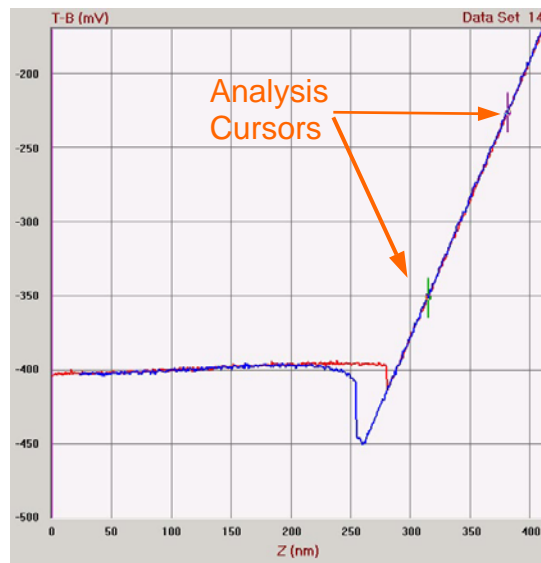

Figure 10-8 Optics calibration curve.
Setup the *Indent* tab panel controls to perform a shallow indentation with the probe as illustrated in Figure 10-8. This indentation curve has sufficient non-contact data to clearly define the signal level when the probe is not in surface contact, and it also has sufficient coverage of the cantilever deflection to clearly define the slope of the indentation line.
2. Press the *Hover* button to raise the probe out of contact with the surface. Press the *Indent* button to perform the measurement. If the resulting graph is not similar to Figure 10-8 then make corrective adjustments to the *Hover Distance* and/or *Z*